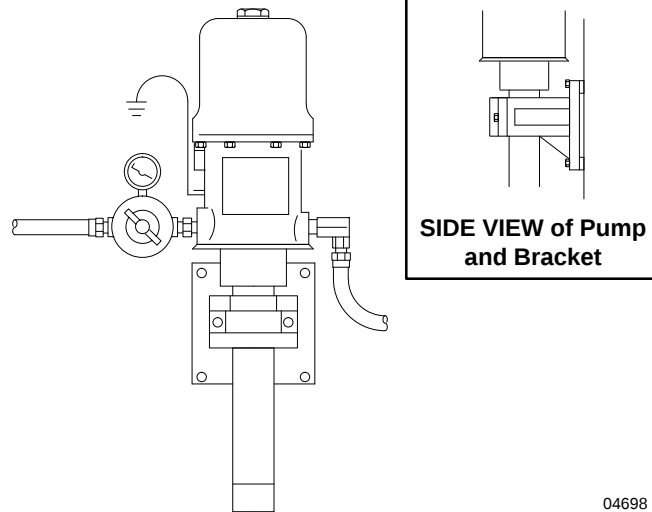

Fig. 2
2. See Fig. 2. Refer to the following table for nominal screw size to mount the pump bracket. Use screws and lock washers of the appropriate type and length for your installation.
Mounting the Pump (See Fig. 2)
1. Remove the screws (2), lock washers (1) and pump support strap (4).
2. Mount the pump in the pump mounting support (3) and position approximately 1 in. (25 mm) down the pump cylinder as shown in Fig. 2.